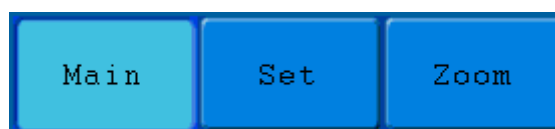

Fig. 25 Time Base Mode Menu
3. **HORIZ MENU** button: with this button pushed down, the screen shows the operating menu (see **Fig. 25**).